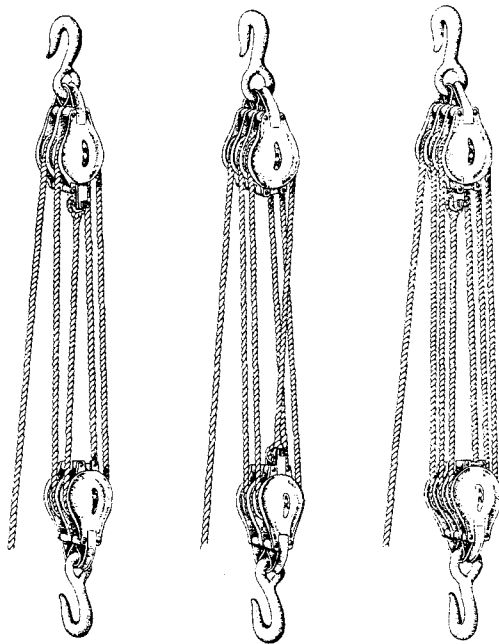

Fig. 4—Reeving Blocks (Alternative Methods)
6.04 Where there is a likelihood of the rope being tangled when following the reeving suggested in 6.03 the blocks may be reeved left over right as shown in Fig. 4.